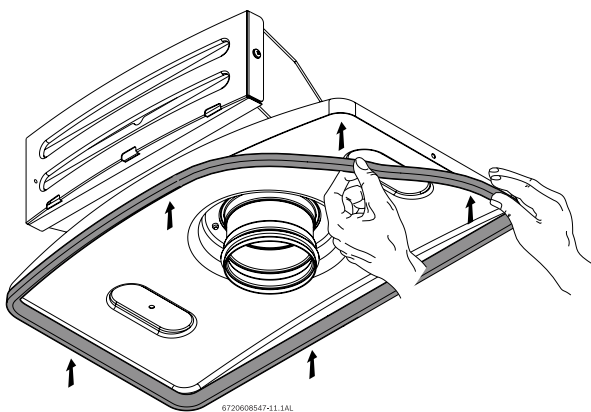

Fig. 3
- ▶ 3. Attach the gasket provided with the kit as shown in Fig. 3.